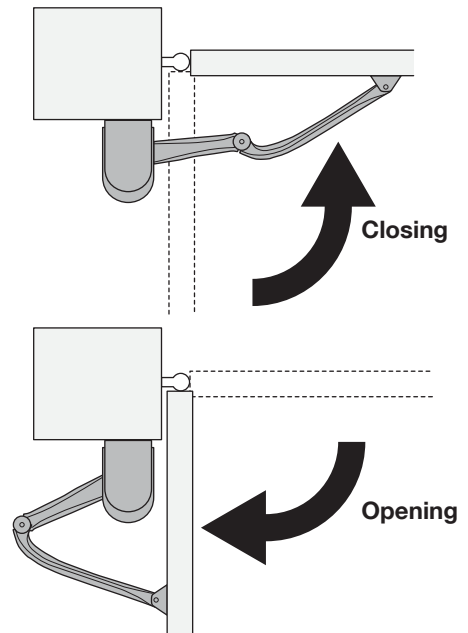

Fig.17
06. Manually verify that, when opening and closing, the gate leaf stops at the desired points **Fig. 17**;